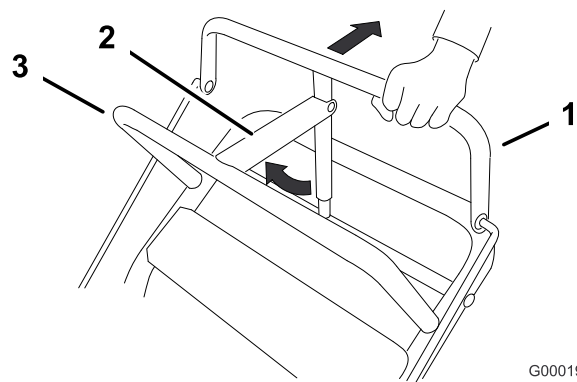

Figure 15
1. Pull the upper control bar (Figure 15) rearward and hold it in this position.
2. Lift the parking brake lock (Figure 15) up and gradually release the upper control bar. The brake lock should stay in the set (locked) position.
2. Gradually release the upper control bar (Figure 15).